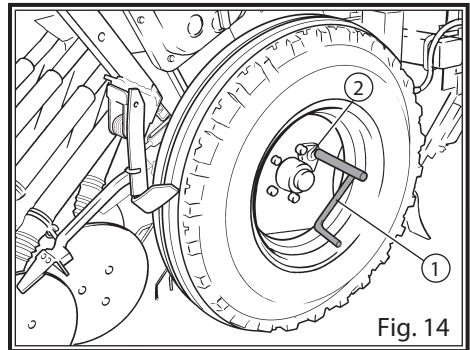

Fig. 14
**THIRD:** Raise the seed drill using the tractor until the wheels can turn freely. Place the calibration crank (1, fig. 14) in the bolt on right wheel (2, fig. 14) and turn it clockwise until seeds start to fall onto the calibration cup. At this moment, stop turning, put these seeds back inside the hopper and start turning the crank again to perform the real turns of the test.